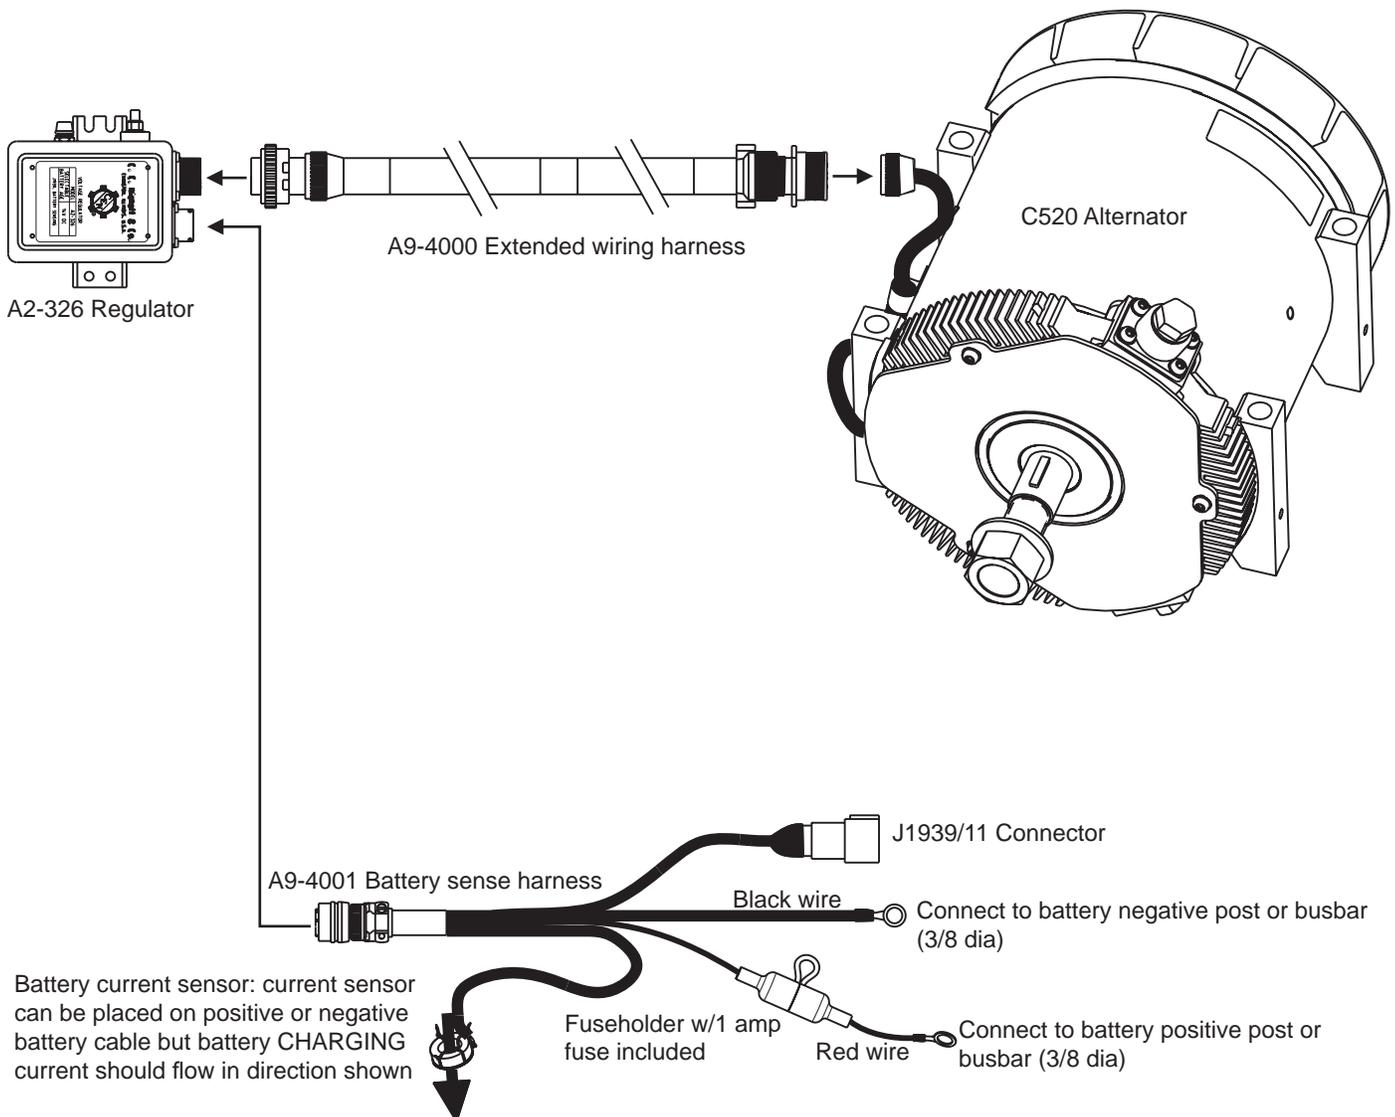

Figure 2 – Remote-Mounted A2-326 Regulator/C520 Alternator with Extended Wiring Harnesses
5. Complete remaining connections from battery sense harness as shown in Figure 2.